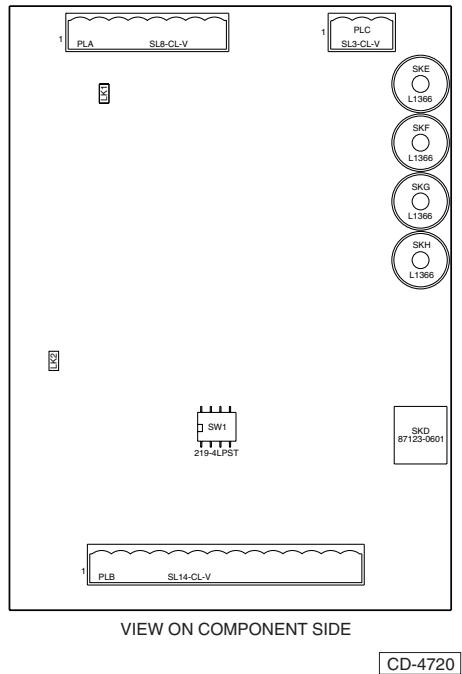

Figure 3d - CAN Adapter PCB (NNR-A981): Link and Switch Positions
- 29 The link and switch positions for the CAN Adapter PCB are as shown in Figure 3d below.